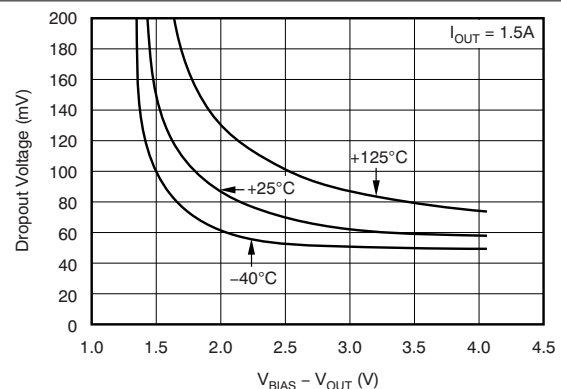

Figure 6-6. V_{IN} Dropout Voltage vs (V_{BIAS} - V_{OUT}) and Temperature (T_J)
- (1) Adjustable devices tested at 0.8 V; resistor tolerance is not taken into account.
- (2) Dropout is defined as the voltage from V_{IN} to V_{OUT} when V_{OUT} is 3% below nominal.
- (3) 3.25 V is a test condition of this device and can be adjusted by referring to Figure 6-6.